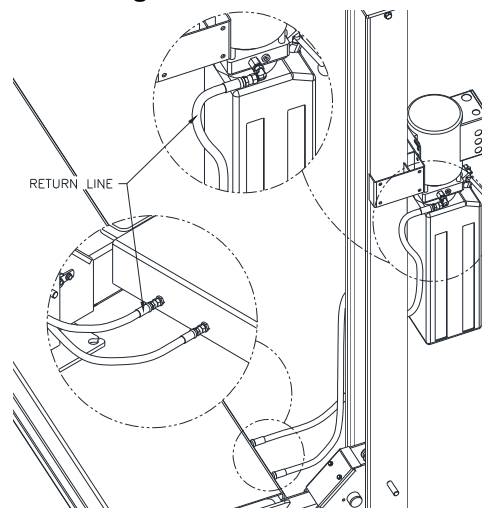

Fig 19 – Return Line, Side
- 35) Remove the 3/8-18 NPT plug on the side of the power unit and attach the 90 degree elbow, **Fig 19**.